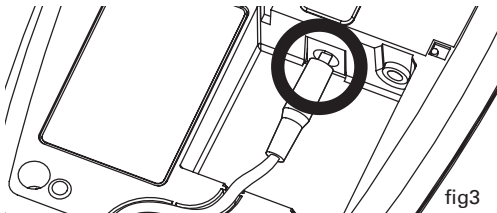

fig3
6. Plug the power cable in to the Strobe. Route the wire through the wire guide (fig3).